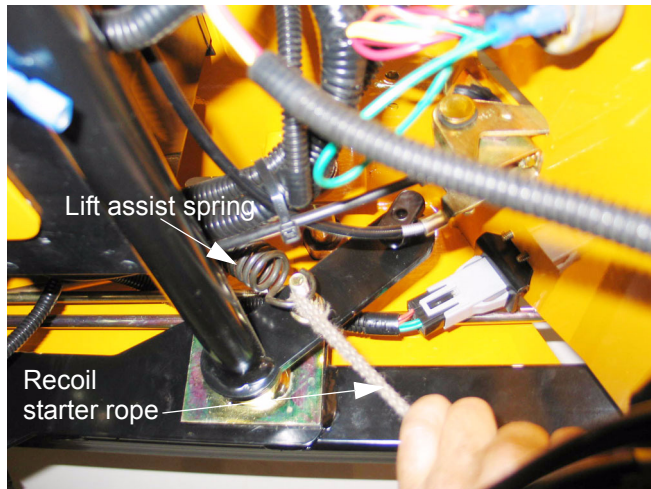

Figure 14.10
- 14.10. Disconnect the springs from the bolts using a length of recoil rope or an appropriate hook tool. See Figure 14.10.